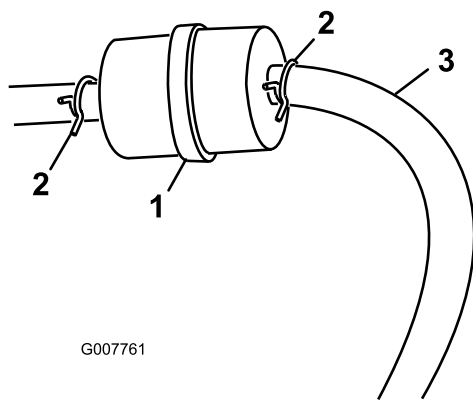

Figure 21
3. Squeeze the ends of the hose clamps together and slide them away from the filter (Figure 21).
5. Install a new filter and move the hose clamps close to the filter (Figure 21).
3. Loosen the hose clamp at the fuel filter and slide it up the fuel line away from the fuel filter (Figure 21).
4. Disconnect the fuel line from the fuel filter (Figure 21).
Note: Allow gasoline to drain into a fuel container can or drain pan (Figure 21).
5. Install the fuel line onto the fuel filter. Slide the hose clamp close to the fuel filter to secure the fuel line (Figure 21).